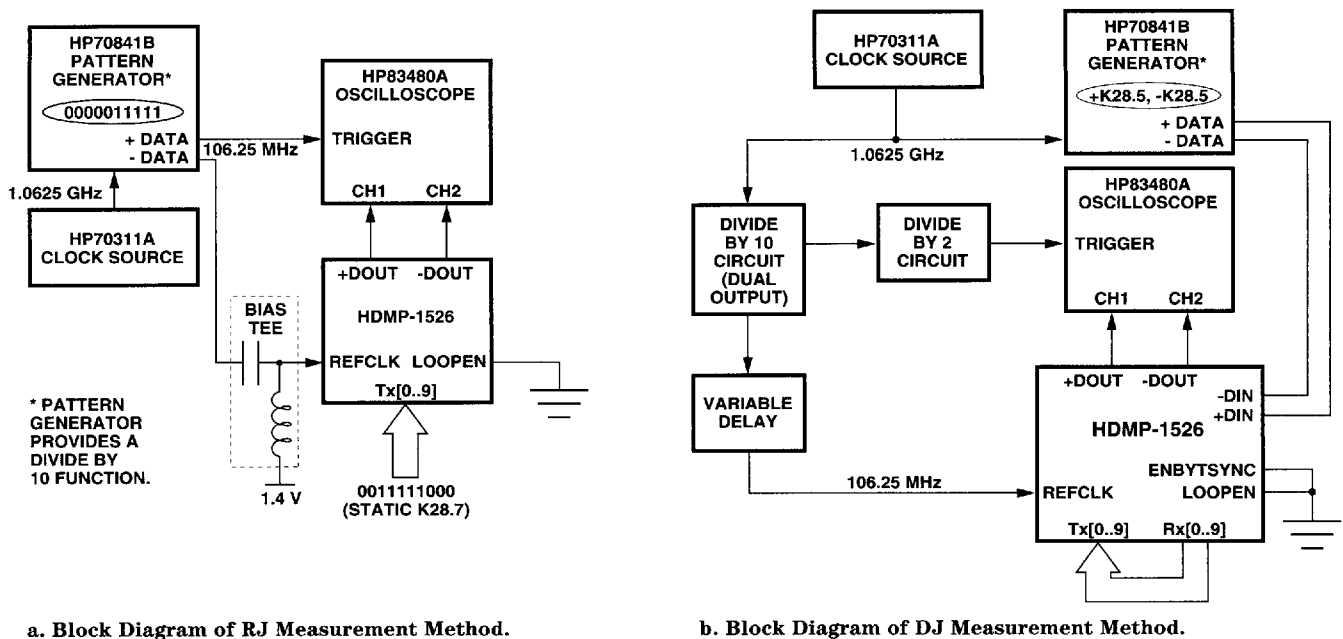

Figure 8. Transmitter Jitter Measurement Method.
1. Defined by Fibre Channel Specification Rev 4.1, Annex A, Section A.4 and tested using measurement method shown in Figure 8.